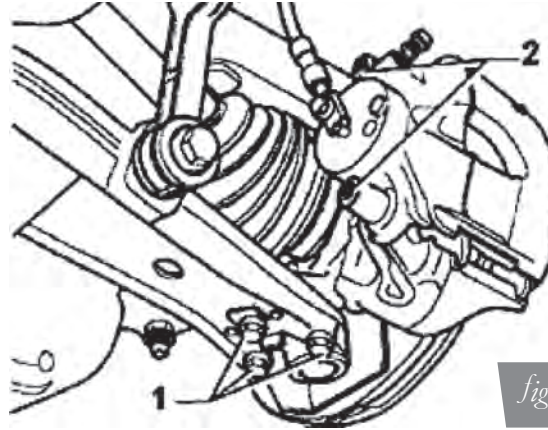

fig. 2
1. Unbolt the two mounting bolts for the brake caliper and secure or hang the caliper to the body of the vehicle (fig. 2).
3. Remove the three lower bolts from the lower ball joint and control arm. Detach the ball joint and hub assembly from the control arm (fig. 2).